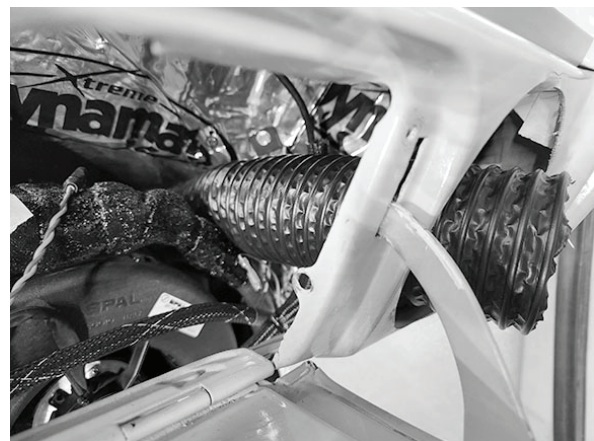

**Figure 1**
2. Refer to Figure 1, below, for duct hose routing.
3. Attach 2 1/2" duct hose to each hose adapter and connect to the evaporator as shown in Figure 1, below.
1. Install duct hoses as shown in Figure 1, Page 27.
3. Insert the new glove box assembly open side up, right side first (See Photo 1, below). Rotate the glove box assembly forward into position, lining up the (4) mounting holes (See Photos 2 and 3, below).
4. Using (4) #8 x 1/2" pan head screws, secure the glove box to the dash (See Photo 4, below).